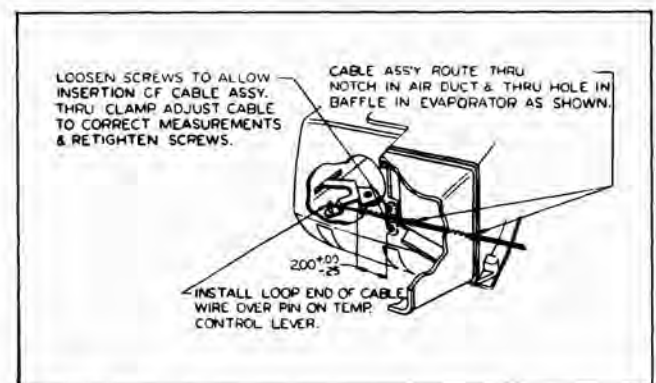

Fig. 6-29 Tempest Temperature Control Cable Hook-up at Evaporator Housing
2. Remove evaporator right side grille and disconnect cable at temperature control lever assembly (Fig. 6-29).
7. Pull cable through dash and attach to control lever so cable housing extends through cable clamp and 2" beyond (Fig. 6-29). Secure clamp.